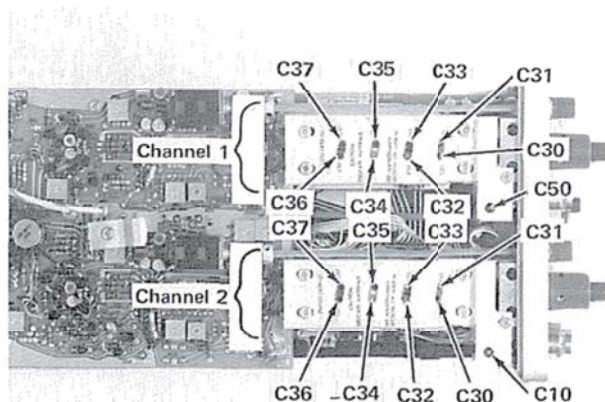

Fig. 5-19. Location of VOLTS/DIV Compensation adjustments.
- o. ADJUST—Channel 2's C34 and C35 (see Fig. 5-19), with a low-capacitance screwdriver, for best corner and flat-top waveform.
- s. ADJUST—Channel 2's C32 and C33 (see Fig. 5-19) with a low-capacitance screwdriver, for best corner and flat-top waveform.